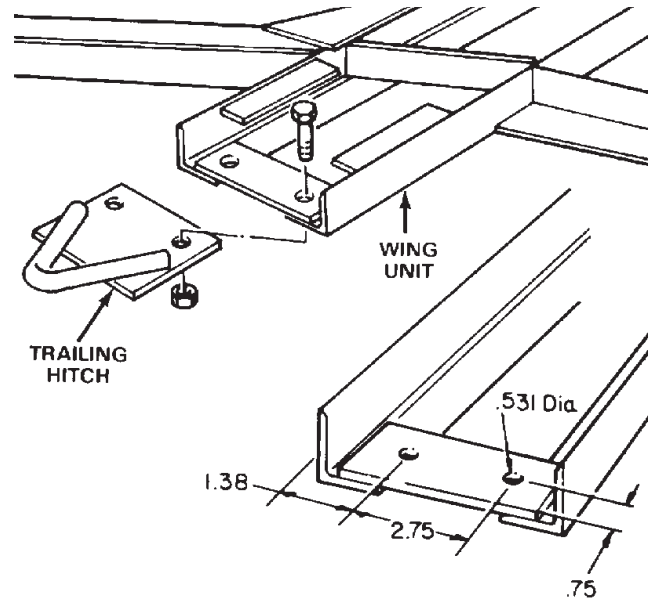

Figure 8
3. Install kit parts to wing unit by securing trailing hitch to underside of frame with (2) capscrews and locknuts (Fig. 8).